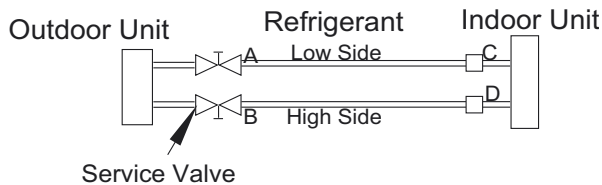

Fig. 6 – Service Valve
- 1 Completely tighten the flare nuts (A, B, C, D, E). Fully open all circuits service valves. Connect the manifold gage charge hose to the charge port of the low side Master service valve to evacuate all circuits at the same time (see Fig. 6).